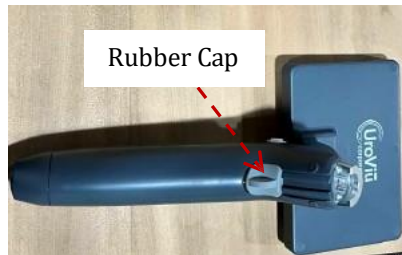

Figure 9. Rubber Cap
Step 2 - Ensure that the supplied rubber cap (see figure 9) is plugged into the electrical port of the handle so that moisture does not come into contact with internal device components.